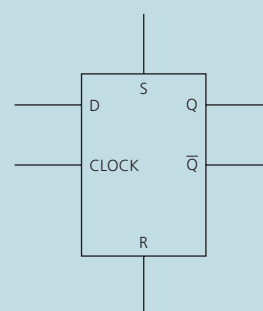

Figure 23
- A D-type flip flop is shown in Figure 23. Describe its operation, with reference to its connections.